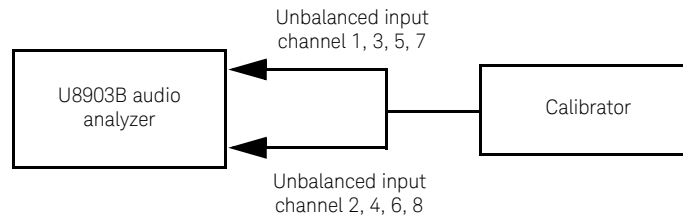

Figure 3-2 Calibrator to U8903B connection for AC accuracy and flatness verification
- 1 Connect the calibrator to the U8903B input channels to be tested via the Unbalanced connection as shown in **Figure 3-2**. The BNC-to-banana jack adapter and the BNC male-to-female T splitter are used for this connection. Preset both the U8903B and calibrator.
- 3 Configure the U8903B input channels, channel 1 (3, 5, or 7) and channel 2 (4, 6, or 8) as shown in **Figure 3-2** to be tested as follows: